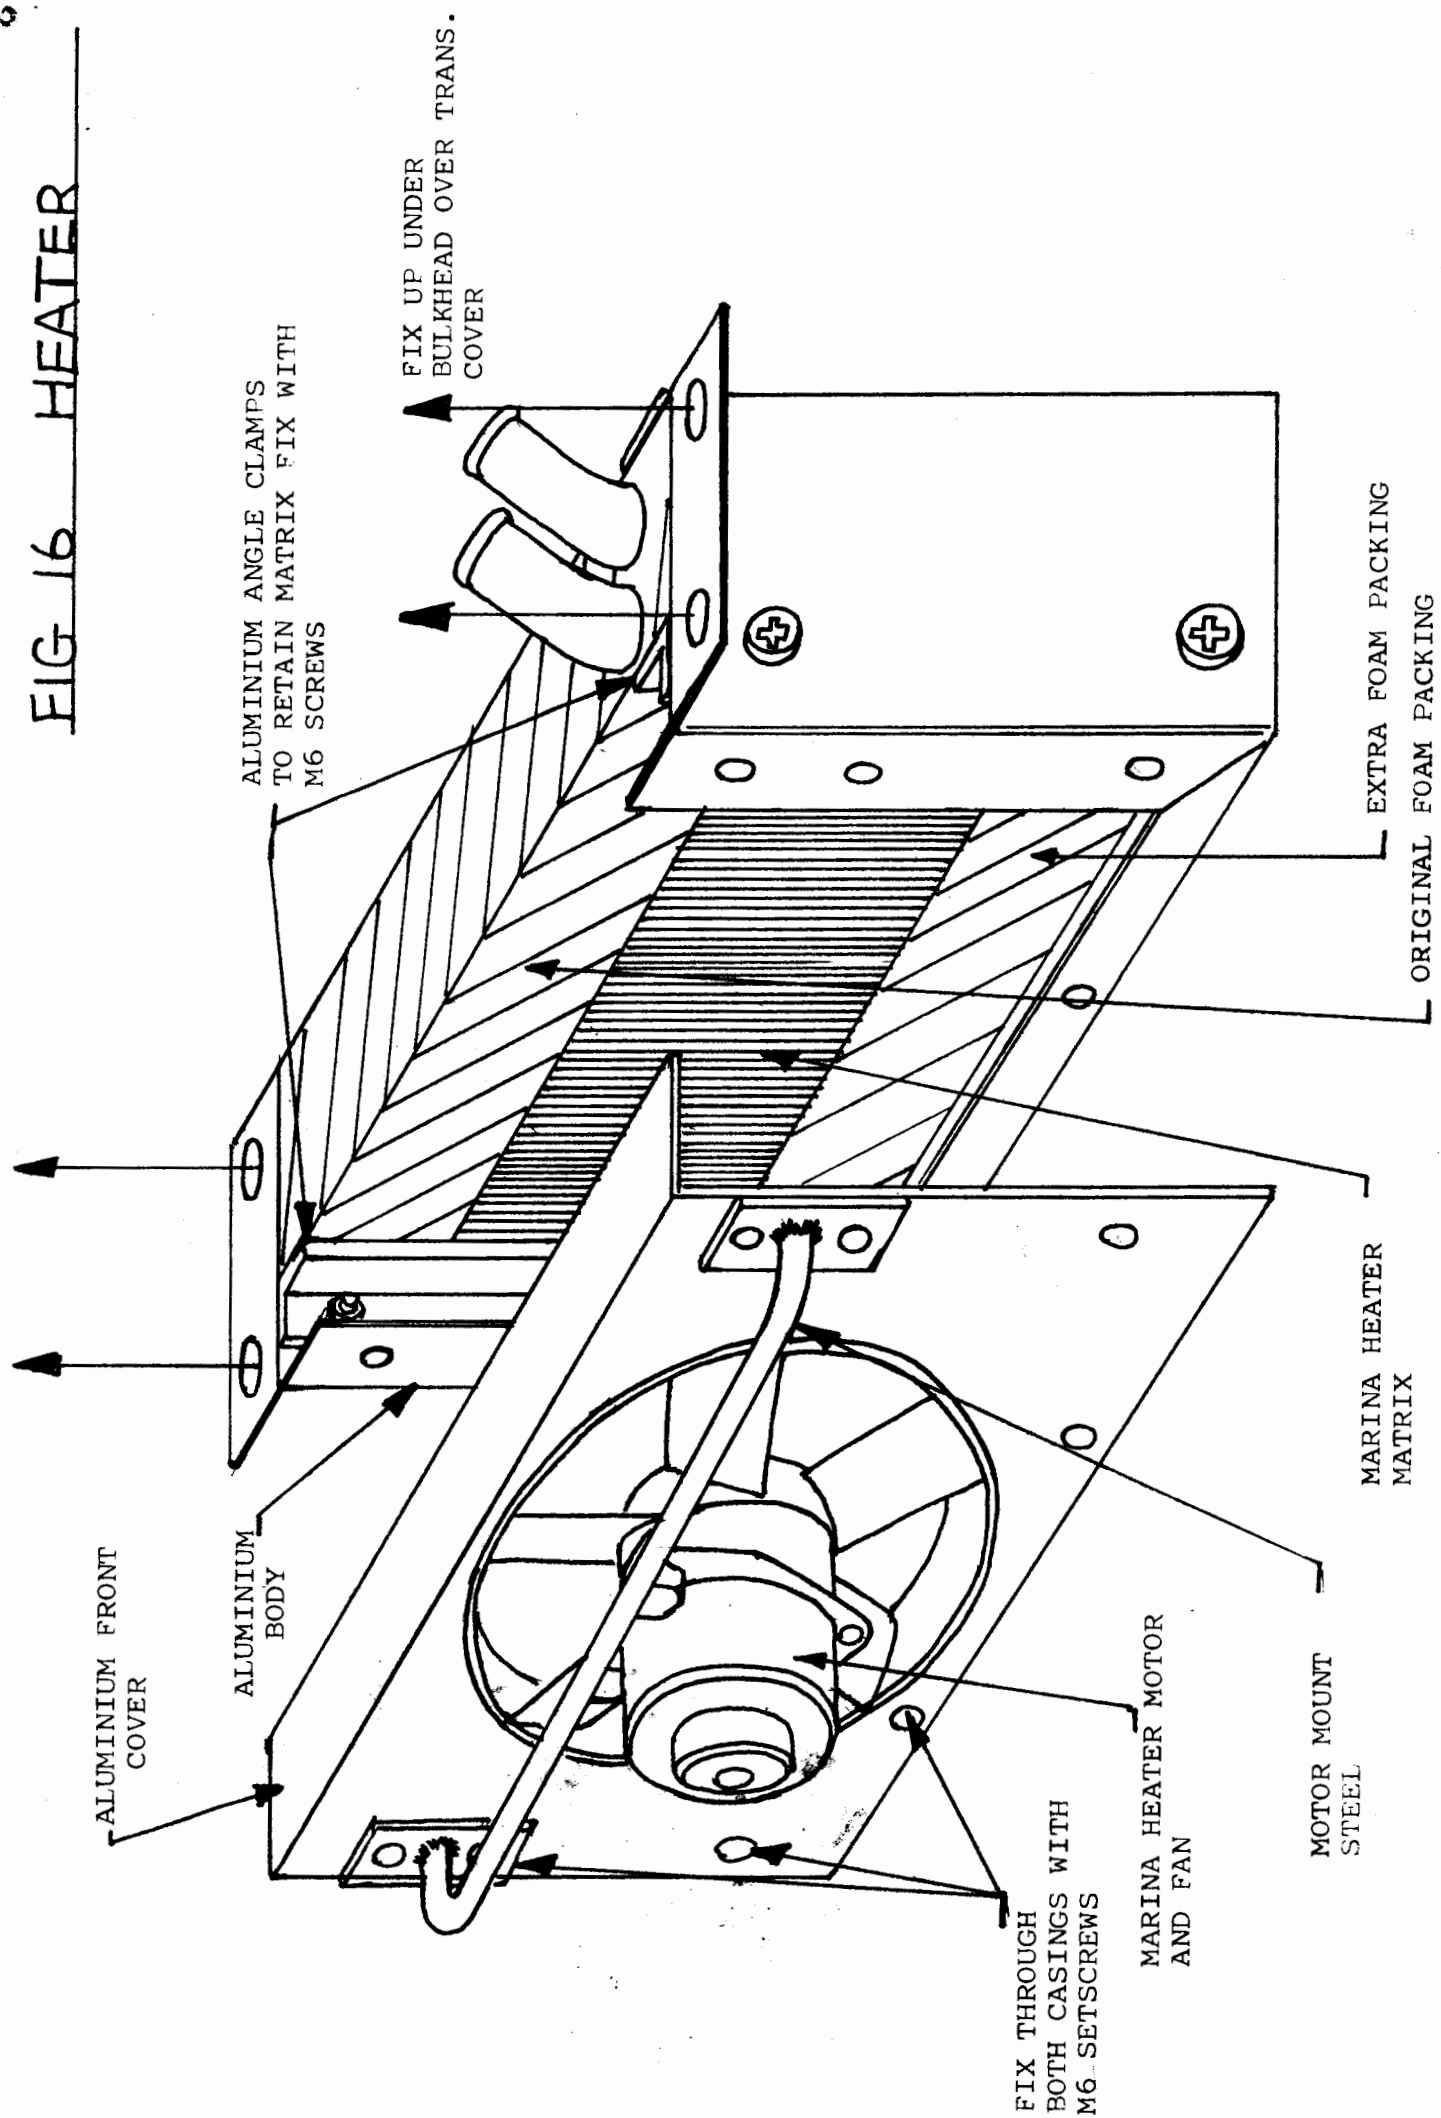

FIG 17 DOOR FITTING
2.17 Doors: See separate sheet, fig. 17.